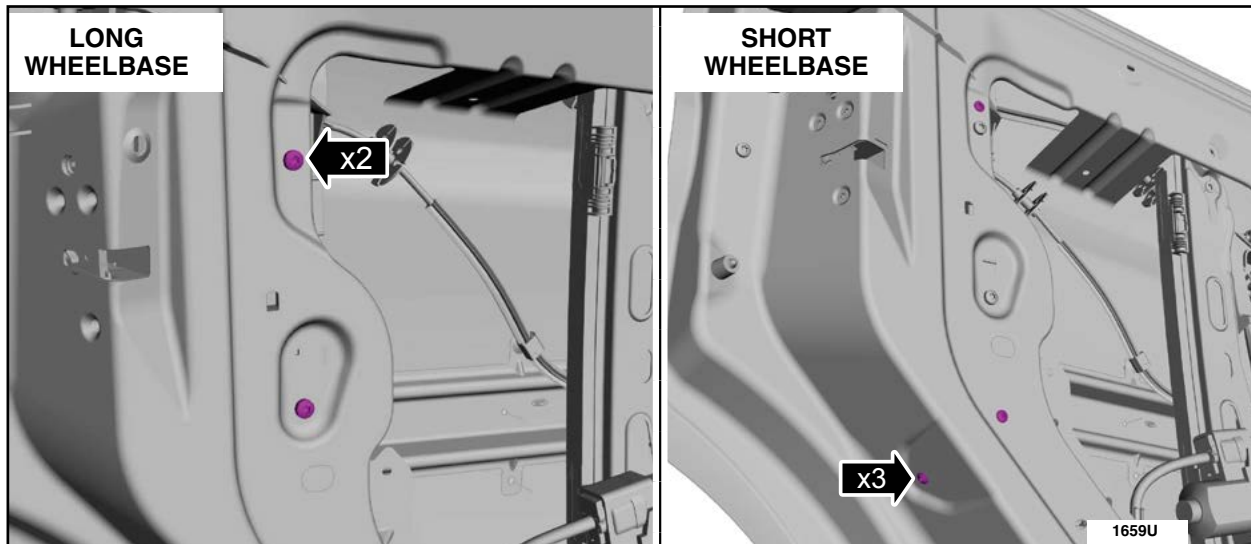

FIGURE 11
4. Remove the sliding door latch bolts. See Figure 11.